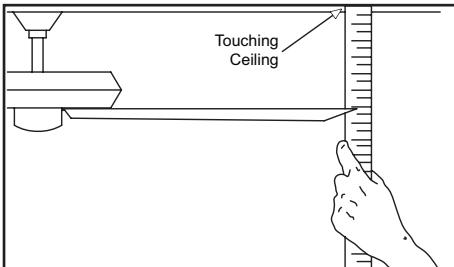

Figure 14
2. Most fan wobble problems are caused when blade levels are unequal. Check this level by selecting a point on the ceiling above the tip of one of the blades. Measure from a point on the center of each blade to the point on the ceiling. Measure this distance as shown in Figure 14. Rotate the fan until the next blade is positioned for measurement. Repeat for each blade. Measurements deviation should be within  $1/8"$ . Run the fan for 10 minutes.